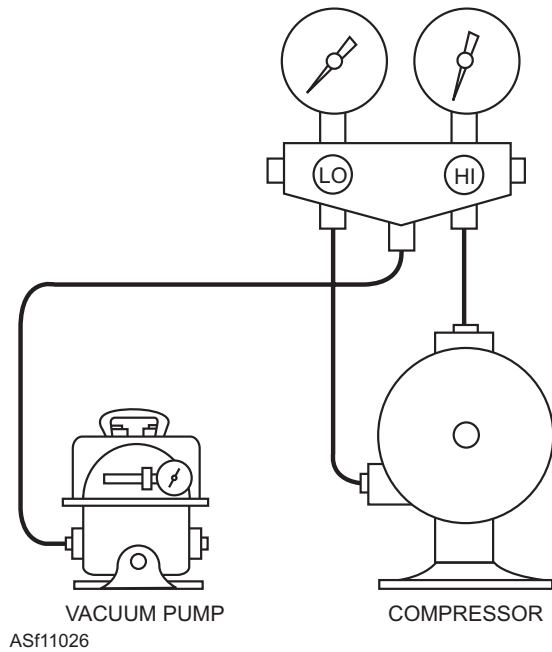

Figure 11-26.—Connections for drawing a vacuum.
1. Connect the refrigerant manifold test set, as shown in figure 11-26.